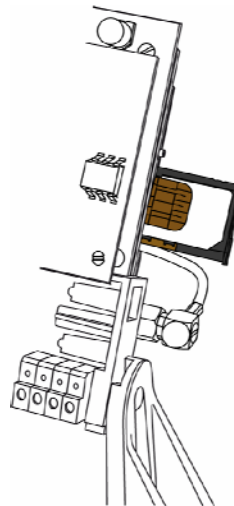

Figure 18 – SIM insertion
- Insert the SIM, with the gold plated contacts visible from the outside, and close the holder (figure 18).